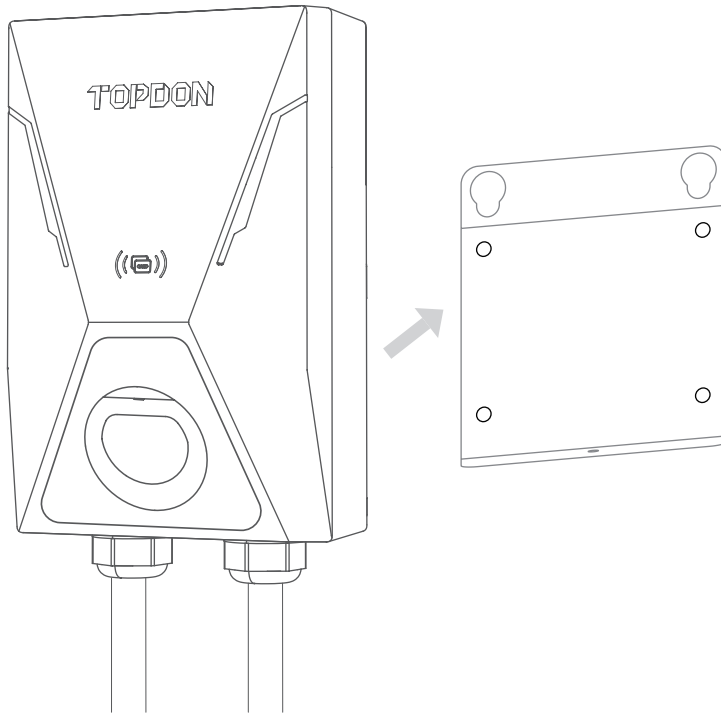

Fig. 5-14
6. Attach the charger to the wall bracket by passing the two thumb screws through the corresponding holes. (See Fig. 5-14)